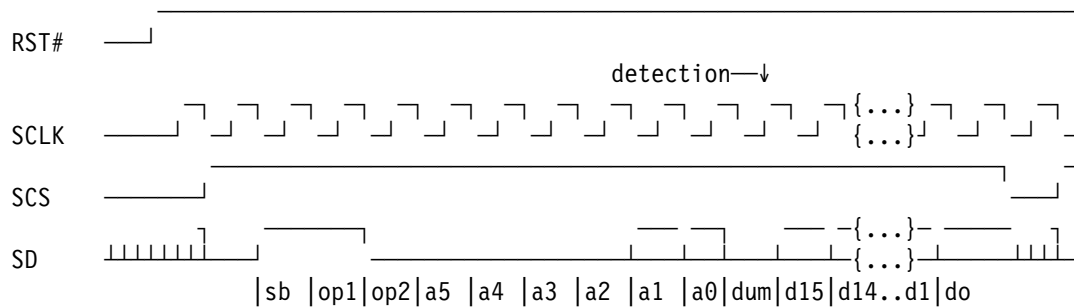

Figure 9. SEEPROM read timing
- About 20 clocks after RST# is deasserted, SCLK starts (see Figure 9).